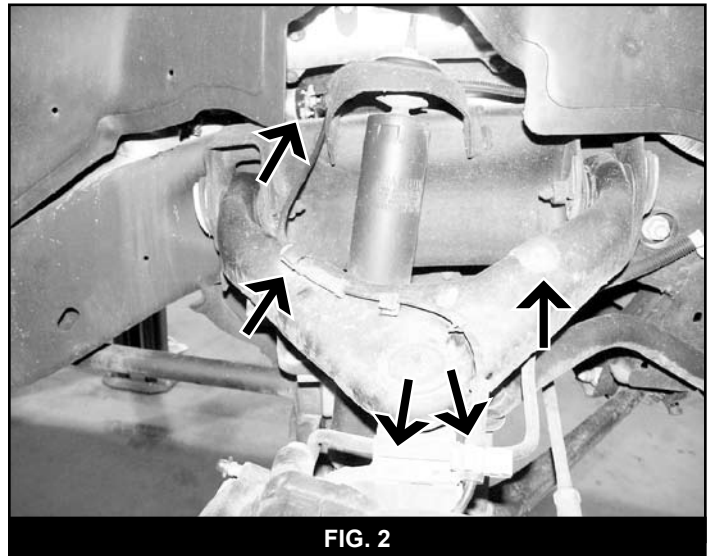

FIG. 2
15. Disconnect the ABS brake wire from the frame and the control arm. Remove the brake hose bracket from the steering knuckle (Fig 2).
17. Disconnect the brake line bracket from the upper control arm by removing the retaining bolt (Fig 2). Retain the mounting hardware.